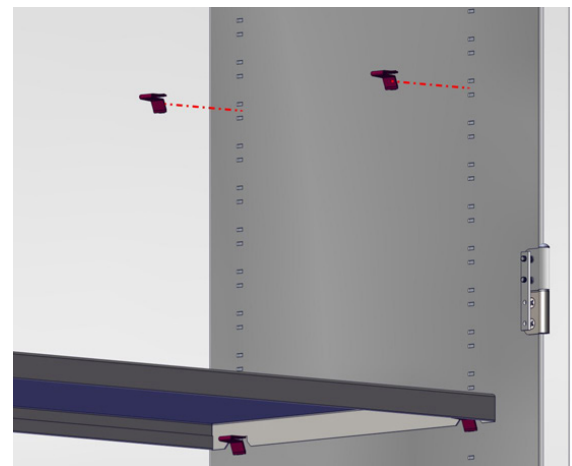

Fig 20: Remove Four Support Tabs and Relocate
3. Remove the four (four per shelf) shelf supports clips by tilting the clip upward and lifting out (Fig. 20).